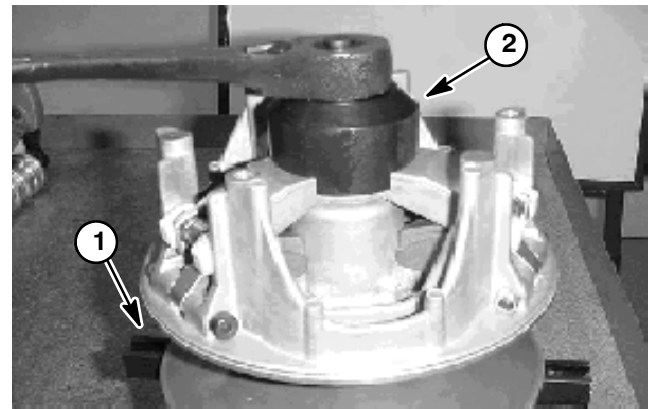

Figure 16
3. Use two 1/4-20 X 1" cap screws to secure the spider removal holding bar (see Special Tools) to drive clutch (Fig. 16).
5. Using spider removal spanner (see Special Tools), remove spider from the fixed sheave post (Fig. 16).